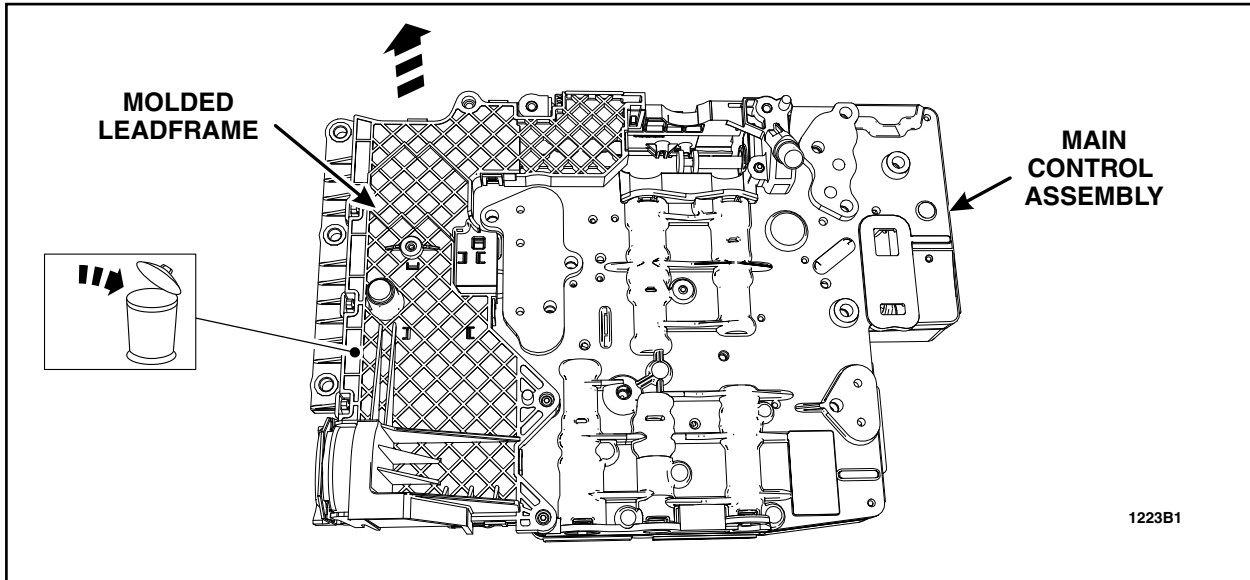

FIGURE 2
4. Carefully separate the molded leadframe from the main control assembly. See Figure 2.